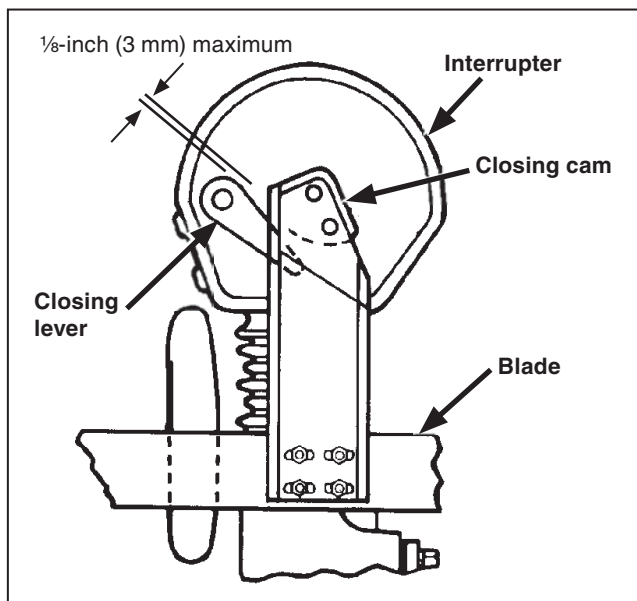

Figure 31. The blade assembly in the fully Closed position.
- (c) When the blade is in the fully **Closed** position, each blade-closing cam must overlap its respective interrupter-closing lever to prevent inadvertent opening of the interrupter, and clearance between the blade-closing cam and its respective interrupter-closing lever must be within the limit shown. See Figure 31.